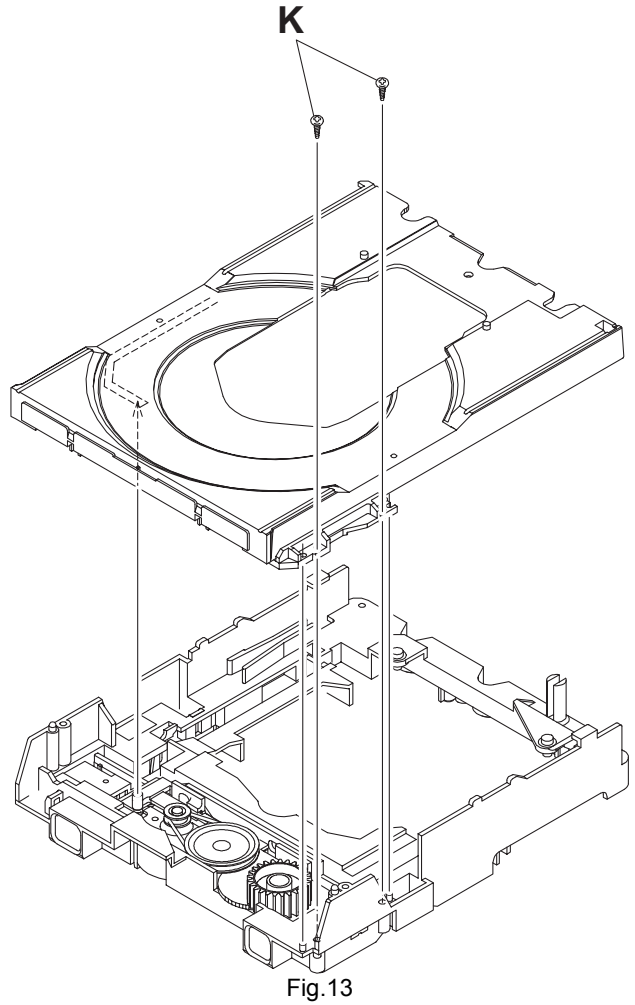

Fig.13
- (3) Remove the two screws **K** attaching the shaft guide from top side. (See Fig.13)
When attach the tray assembly, boss of loading sub assembly should attach to guide of bottom side at tray assembly. (See Fig.13)